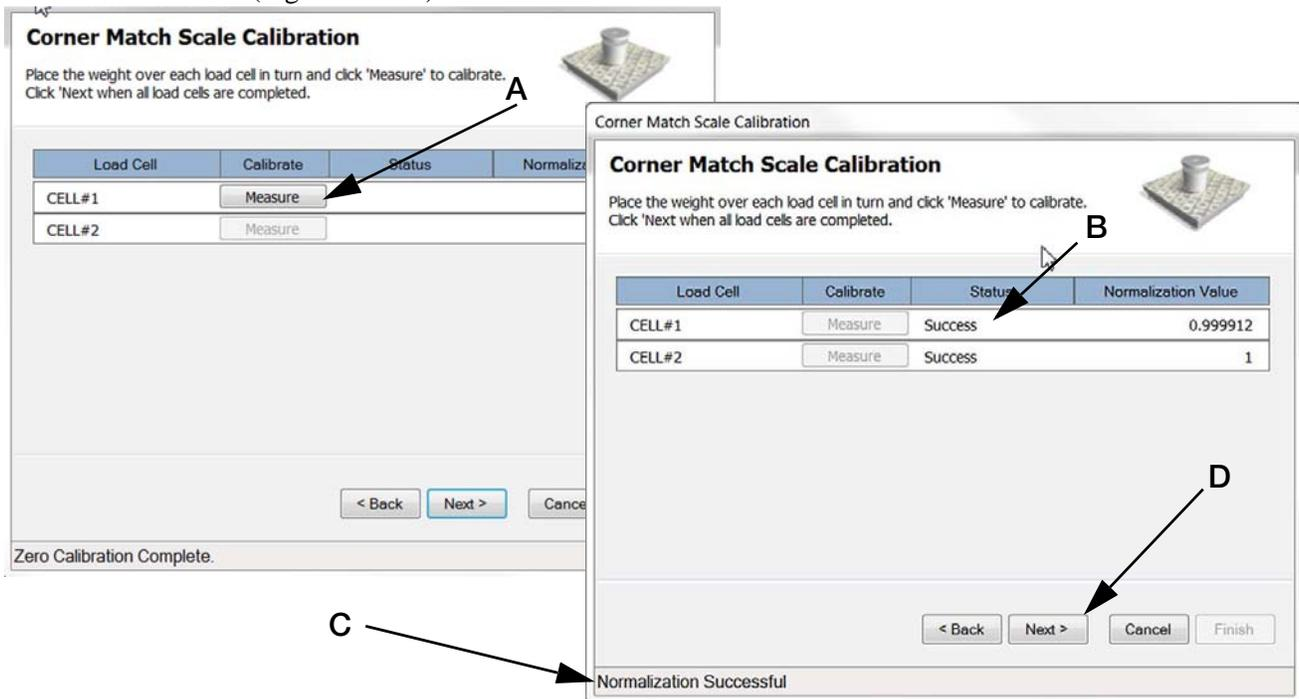

Figure 5-14. Load Cell Calibration
- Press **Measure** (Figure 5-14 A).
- Load Cell #1 Status will read **Success** (Figure 5-14 B) and Load Cell #2 **Measure** will become available.